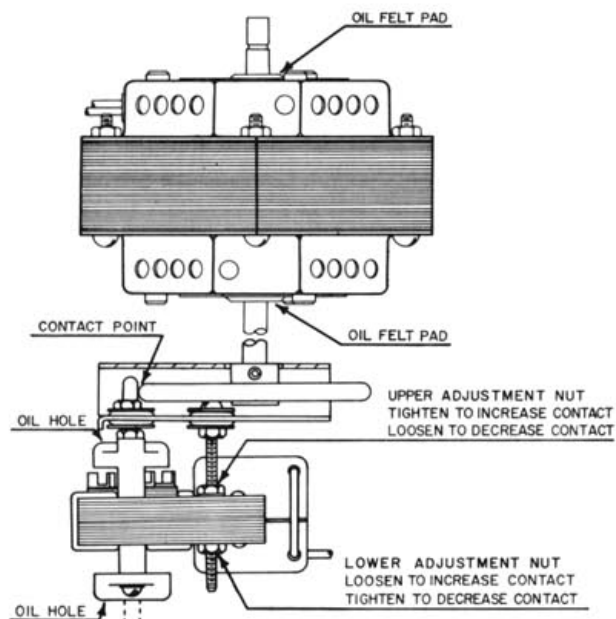

Fig. 13
4. Saturate bearing felts at either end of the large motor. (See "OIL FELT," Fig. 13.) Use oiler supplied or any good grade light-weight machine oil. Don't over-lubricate.
6. Remove the shaft adjustment nut from the free end of the small motor's shaft adjustment screw. (See Fig. 13.)
10. Saturate bearing felts at either end of the small motor. (See "OIL HOLE," Fig. 13.)
The small motor drives the shaft of the large motor at slow speed by making contact with the rim drive wheel assembly. (See Fig. 13.) The small motor armature is spring loaded, withdrawing from the rim drive wheel assembly when the small motor is not operating.
2. Loosen the contact adjustment nuts on the small motor until small motor shaft no longer touches the rim drive wheel assembly. (See Fig. 13.)
4. Slowly tighten upper adjustment nut until the small motor shaft forces the drive pulley to turn the drive belt. (See Fig. 13.)
5. Tighten the lower adjustment nut (See Fig. 13) against small motor laminations.